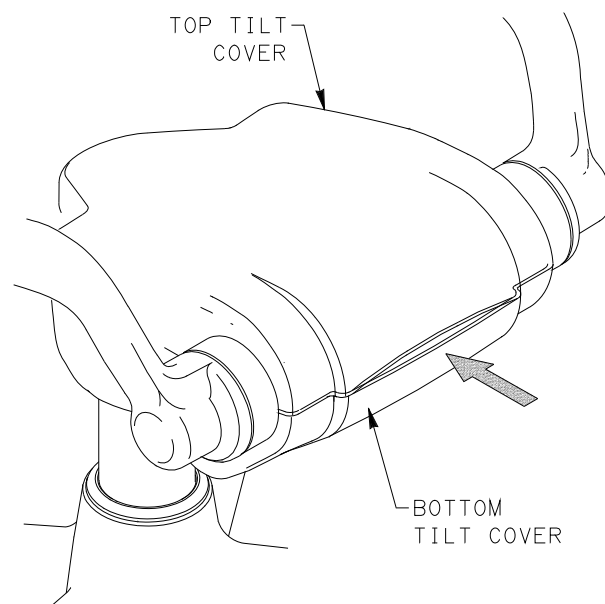

FIGURE 3
3. USING THUMB PRESSURE, PRESS FRONT OF BOTTOM TILT COVER TO START SEPARATION OF TILT COVERS. INSERT 1" PUTTY KNIFE BETWEEN TOP AND BOTTOM COVERS AND TWIST KNIFE TO COMPLETELY SEPARATE TILT COVERS. REMOVE TOP COVER AND SET ASIDE. SEE FIGURES 3 AND 4.
11. REPOSITION PNEUMATIC ACTUATOR OVER MOUNTING HOLES IN TILT. REINSTALL AND TIGHTEN (2) SCREWS SECURING ACTUATOR. SEE FIGURE 3.